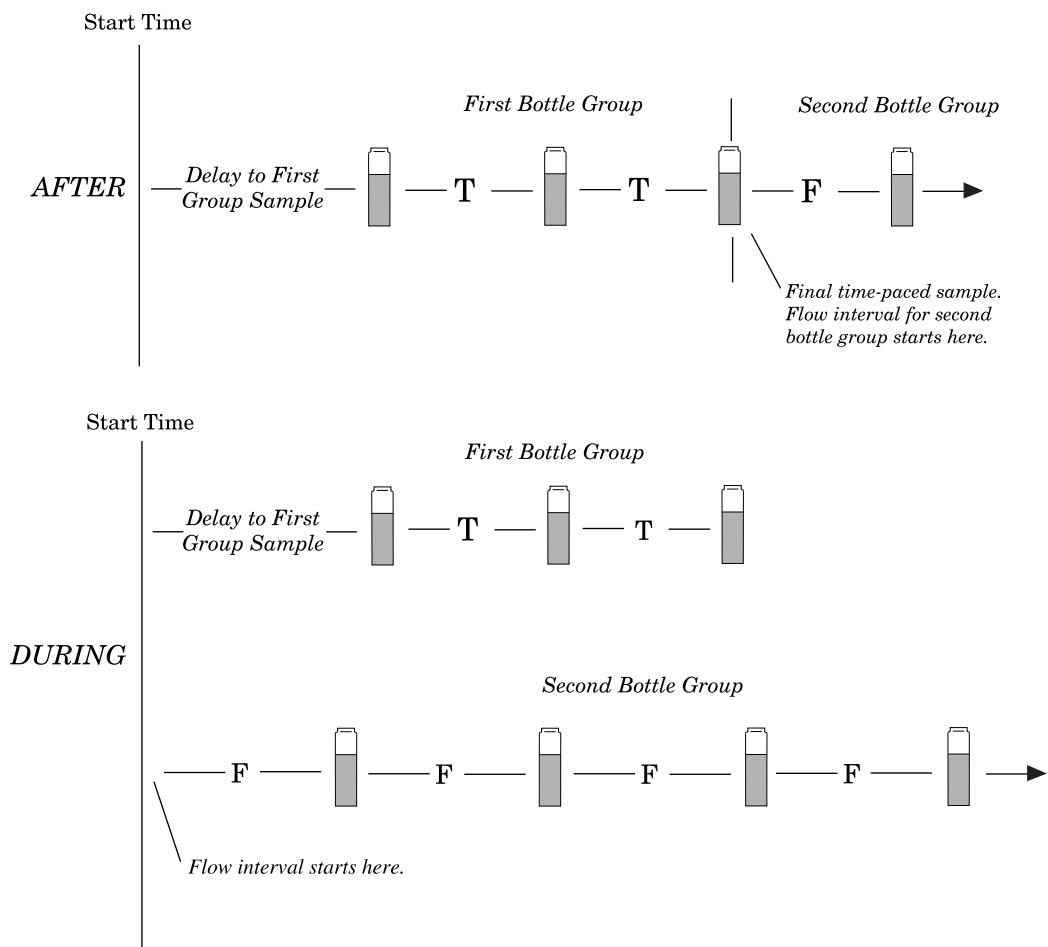

Figure 3-16 Storm Sampling: Flow Pacing for the Second Bottle Group
- Collect samples for the second bottle group after collecting the first-flush samples or collect samples for both groups at the same time. See Figures 3-16 and 3-17.